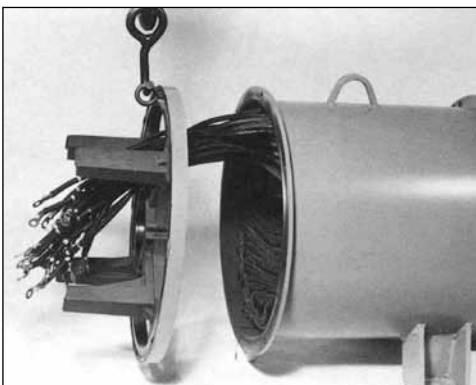

Figure 6-35
2. Remove the front end bracket from the main stator assembly (Figure 6-35).